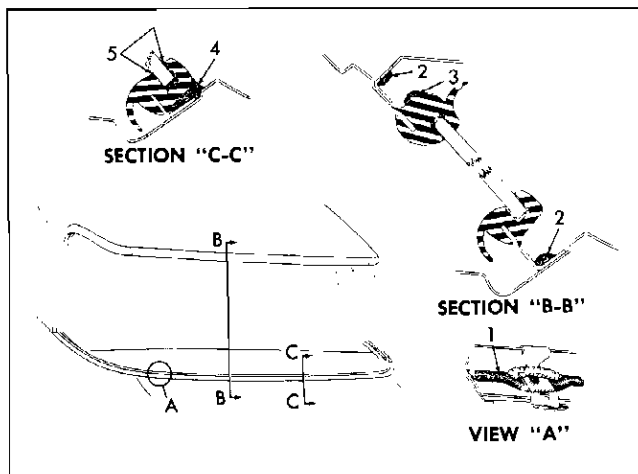

Fig. 4-6 Back Window Sealing—11, 69 Styles
2. Check installation of lower reveal molding clips at pinchweld and retaining flanges and replace clips, where necessary. If replacing clips, apply medium-bodied sealer to opening rabbet prior to installing clips. (1 in View A, Fig. 4-6).
3. Apply a continuous ribbon of medium-bodied sealer (approximately $\frac{1}{2}$ inch wide by $\frac{1}{4}$ inch thick) on wall of rabbet completely around opening. (2 in Section B-B, Fig. 4-6).
5. Apply a continuous ribbon of medium-bodied sealer (approximately $\frac{1}{2}$ inch wide x $\frac{1}{4}$ inch thick) to base of rubber channel across top and down sides of rubber channel. (3 in Section B-B, Fig. 4-6).
8. Using a pressure type applicator, apply sufficient medium-bodied sealer to completely fill the wedge shaped opening between rubber channel and body across bottom of channel. (4 in Section C-C, Fig. 4-6).
9. Using a pressure type applicator (pistol type oiler) apply weatherstrip adhesive (black) between rubber channel and glass on inside and outside of glass around entire perimeter of glass, (5 in Section C-C Fig. 4-6). Application of adhesive should be continuous with no skips.
9. Using a pressure type applicator (pistol type oiler) apply weatherstrip adhesive (black) between rubber channel and glass on inside and outside of glass around entire perimeter of glass. (5 in Section C-C, Fig. 4-6) Application of adhesive should be continuous with no skips.